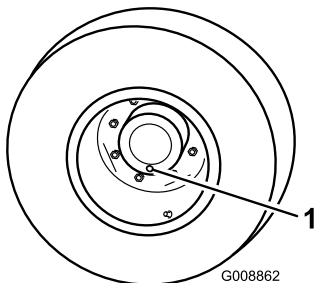

Figure 60
1. With the machine on level surface, position a wheel so that one of the check/drain plugs is at the lowest (6 o'clock) position (Figure 60).